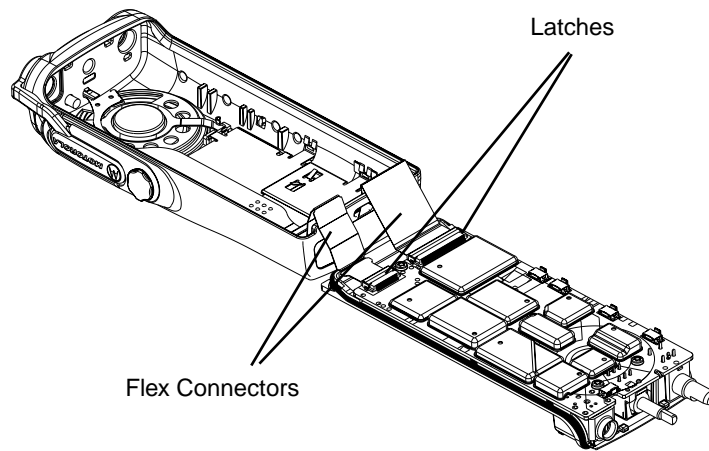

Figure 3-4. Unlatching Flex Connectors
10. Lift the latches on the main circuit board to release the flexes from their connectors as shown in Figure 3-4.